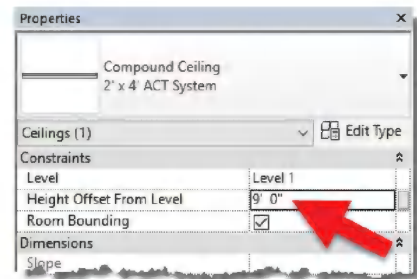

FIGURE 7-2.3 Properties Palette
5. Set the *Height Offset From Level* setting to **9'-0"** in the *Properties Palette* (Figure 7-2.3).